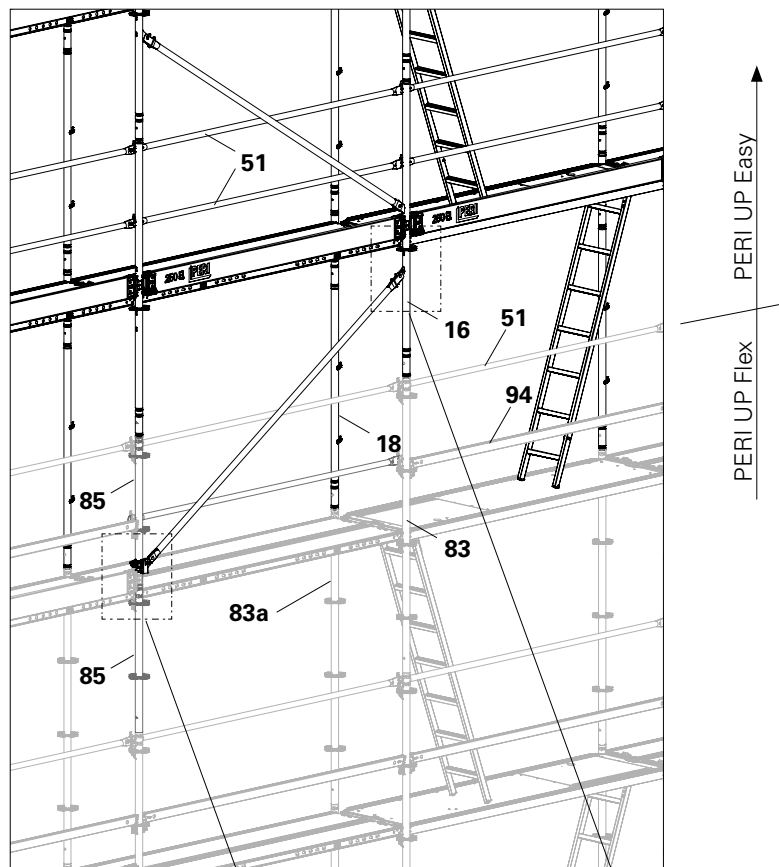

Fig. C1.06
2. Install Horizontal Ledgers UH-2 (94) or Guardrail Holders EPW (59) and Guardrail Post EPG (51) as guardrail posts.
3. Fit a Tube EVR 150 (18) onto the inner Standard UVR (83a).
4. Fit Easy Frame EVF (16) onto Tube EVR (18) and Standard UVR (83) with a Guardrail Post EPG in advance (51).
5. Continue erecting according to the Instructions for Assembly and Use for PERI UP Easy. (Fig. C1.06)